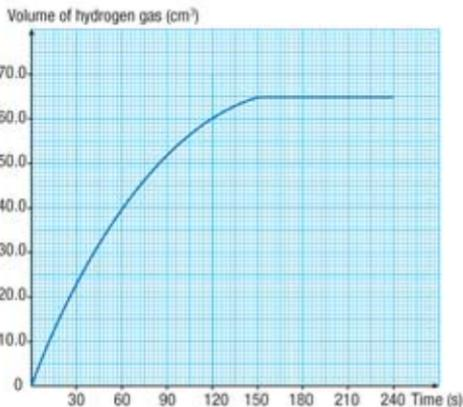

Figure 1
3. Figure 1 shows the graph of volume of hydrogen gas released against time.